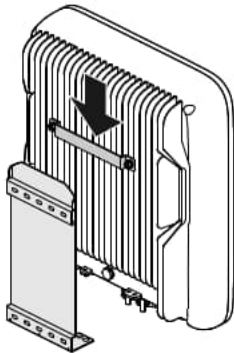

Figure3-10 Hang the inverter to installation holder
Step 5 Uplift the inverter and hang the inverter to the installation holder, as shown in Figure3-10.